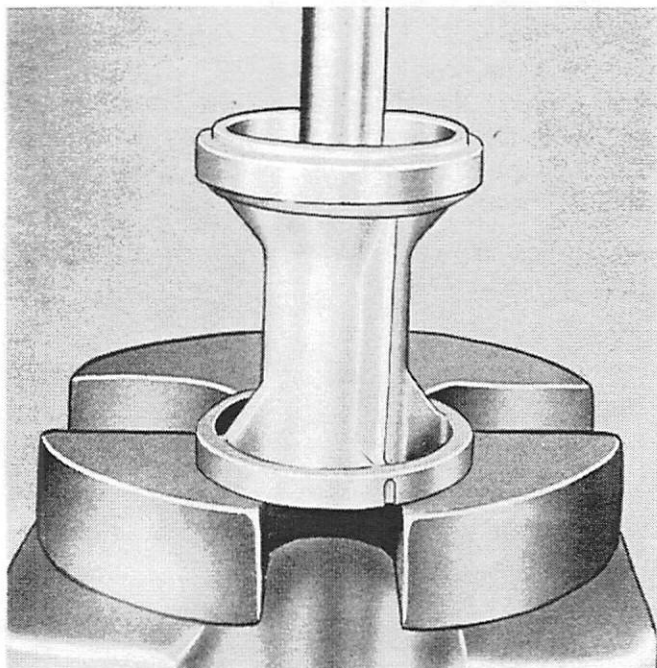

Figure 4. Pressing Bearings out of Carrier
11. Press roller bearing and seal from carrier assembly on arbor press with Bearing Mandrel (91-24288A3) and Bearing Adaptor (91-30406). Adaptor must be put on mandrel with large shoulder facing bearing. (Figure 4)